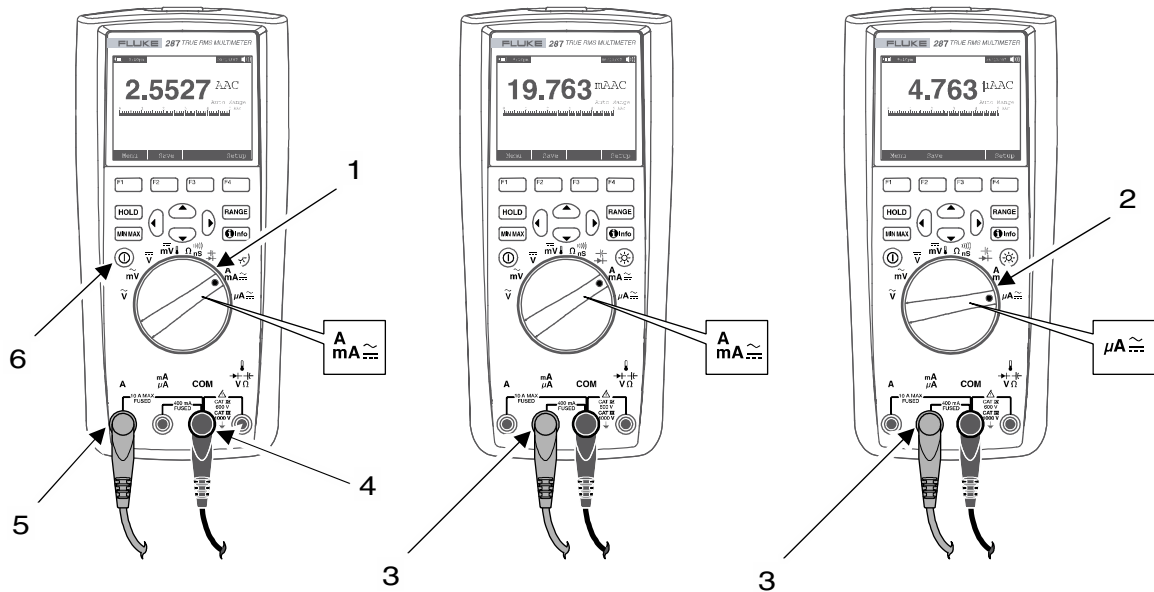

Figure 15. Current Measurement Modes
1. Insert the black test lead into the COM terminal (Figure 15., Item 4).
2. For measurements less than 5 μ A, insert the red test lead into the mA/ μ A terminal (Figure 15., Item 3) and position the rotary switch to μ AuA position (Figure 15., Item 2). Go to step 5.
3. For measurements greater than 5 μ A but less than 400 mA, insert the red test lead into the mA/ μ A terminal (Figure 15., Item 3) and position the rotary switch to A/mA position (Figure 15., Item 1). Go to step 5.
4. For measurements greater than 400mA, insert the red test lead into the A terminal (Figure 15., Item 5) and position the rotary switch to A/mA position (Figure 15., Item 1).
5. Press the On/Off button (Figure 15., Item 6) to turn the multimeter on.
8. To exit the any current mode, move the multimeter rotary switch (Figure 15., Item 1) to any other mode.